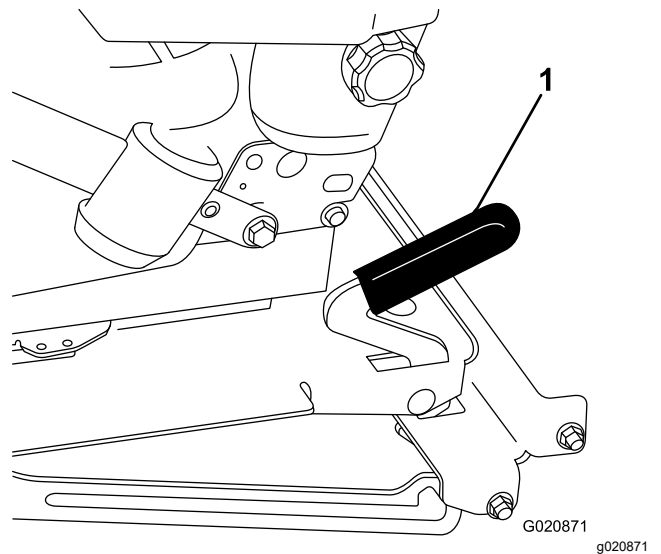

Figure 17
2. Pull the seat latch forward and lift up to unlatch the seat (Figure 17).